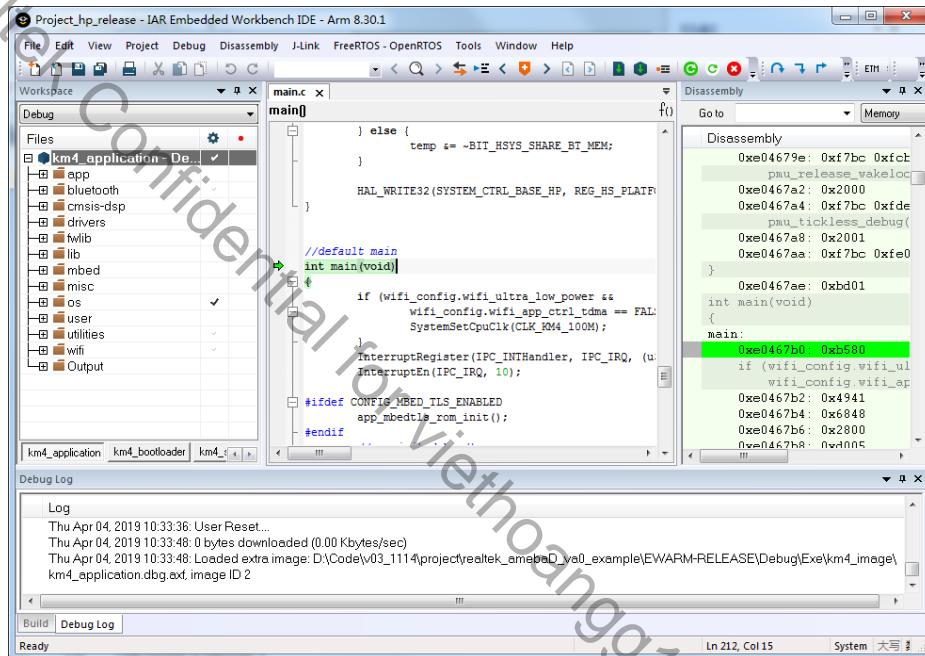

Fig 6-20 Running to main() when debug
- (1) Set the target project as active project and verify the debugger configurations as step (1) and (2).
- (2) Click Project > Download and Debug or Project > Debug without Downloading.
- (3) When starting IAR C-SPY to debug, it will firstly reset the target CPU and run to the main function, as Fig 6-20 shows.